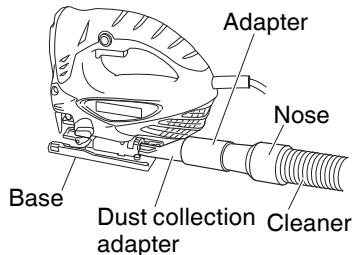

Fig. 16
- Connect the dust collection adapter with adapter. (Fig. 16)
- Connect the adapter with the nose of cleaner. (Fig. 16)